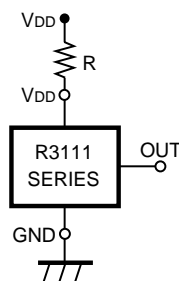

Figure 9
1. In Figure 9, When R3111xxxxC is used, and if an impedance is connected between Voltage Supplier and the VDD Pin of R3111xxxxC Series, the operation might be unstable by cross conduction current at detection.
When R3111xxxxA is used in Figure 9, if the value of R is set excessively large, voltage drop may occur caused by supply crrent of IC itself and Detector threshold may vary.